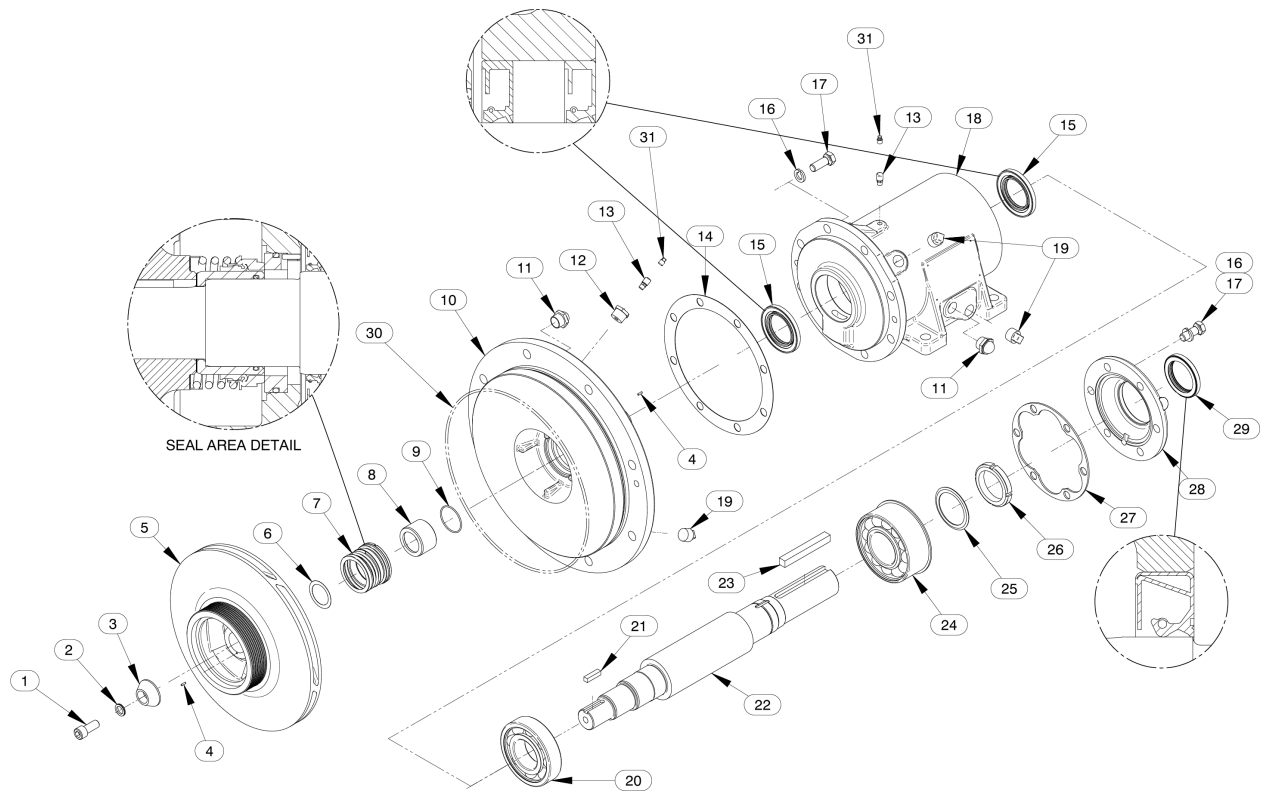

Figure 2. Repair Rotating Assembly
(Figure 2)
(Figures 2 and 3)
Further disassembly requires separating the rotating assembly from the power source. Remove the coupling securing the rotating assembly to the power source and remove the key (28, Figure 2).